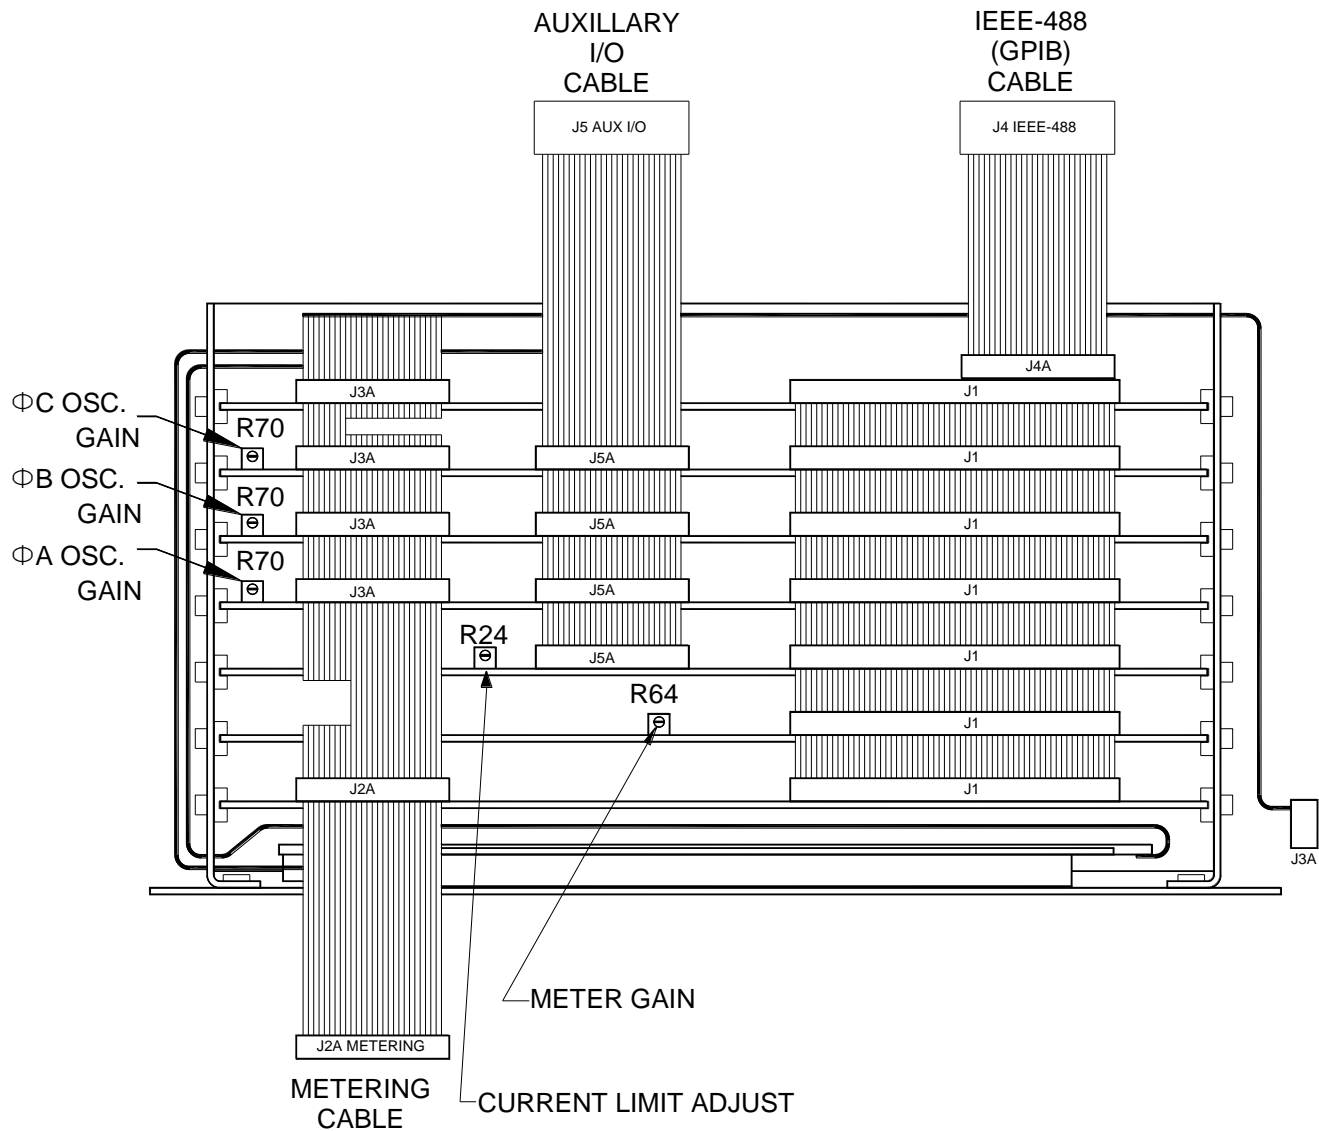

FIGURE 8.2 GAIN CONTROL LOCATIONS
The first step in the MANUAL calibration process calibrates the oscillator. Nominally, the oscillator produces 5.000 VAC_{rms} when the system is set for 125.0 VAC_{rms} (system configured for DIRECT COUPLED output), depending on system gain. See \(Figure 8.2\) for control location. To set this level:
5. Apply output power to the load. Adjust R24 of the DRM PCB until the RMS current measured with the ammeter probe equals that of the programmed current limit value (in RMS amps). Refer to \(Figure 8.2\) for control locations.
The second step in the MANUAL calibration process is to calibrate the Output Voltmeter. Only one meter circuit is used for all voltage, current and power measurements. If other metering functions are out of specification after calibrating the Phase A voltmeter, return the unit for repair. The Output Voltmeter is calibrated as follows: Refer to \(Figure 8.2\) for control locations.